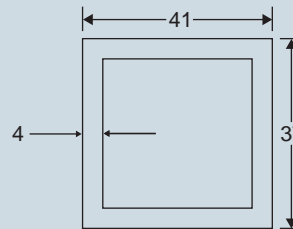

Figure 2.26
6. Fig. 2.26 shows a 4 m wide path within the outside wall of a 41 m by 37 m garden. Calculate the area of the path.